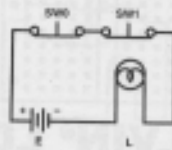

Fig. 19, Electrical Circuit Comparison
**Procedure – Refer to Figures 19, 20 and 21 for the following instructions.**